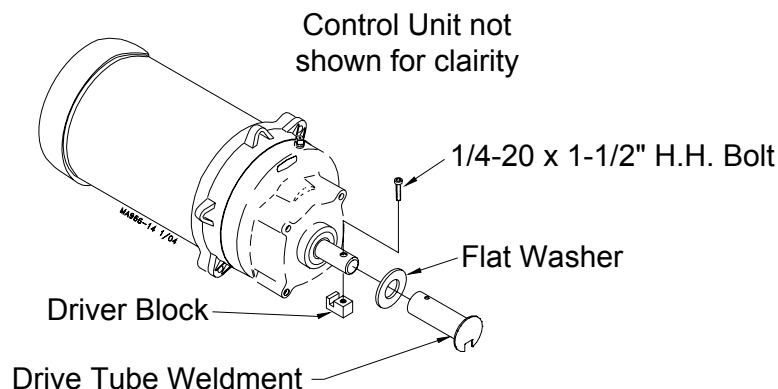

Figure 36. Auger Driver Components
5. Slide the drive tube and flat washer over the output shaft on the power unit, see figure 36.